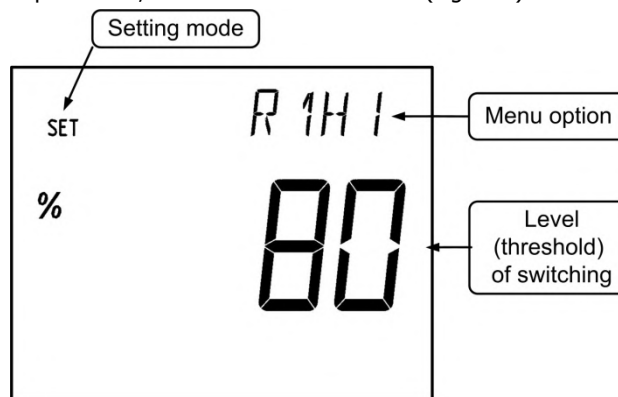

Figure 1 - Displayed elements
3.2 There appears the word SET in the top left corner; top right corner has the name of the parameter, below it - its code or value (Figure 1).